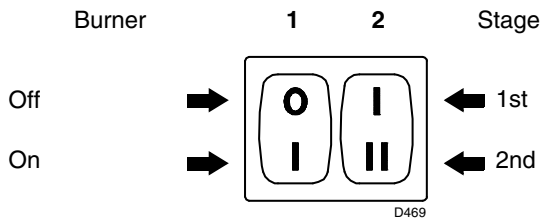
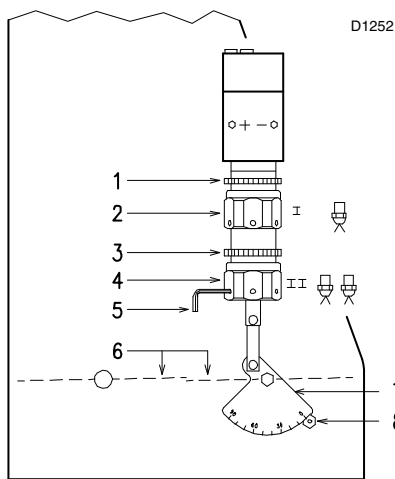

Fig. 20
Fig. 21
– The pump can be considered to be primed when the light oil starts coming out of the screw 3). Stop the burner: switch 1) (Fig. 20 pag. 18) set to "OFF" and tighten the screw 3).
- Start the burner by closing the control devices and with switch 1) (Fig. 20 pag. 18) in the "ON" position. The pump must rotate in the direction of the arrow marked on the cover.
Set switch 1) (Fig. 20) to "ON".
Keep the burner operating at 1st stage by setting the switch 2) (Fig. 20) to the 1st stage position. Opening of the air gate valves 6) (Fig. 21) must be adjusted in proportion to the selected nozzle: the index 8) (Fig. 21) must be aligned with the notch indicated on the graduated sector 7) (Fig. 21). This adjustment is achieved by turning the hex element 2) (Fig. 21):
Set switch 2) (Fig. 20 pag. 18) to the 2nd stage position and adjust the air gate valve 6) (Fig. 21) by turning the hex element 4) (Fig. 21), after having loosened the ring nut 3) (Fig. 21).
in order to facilitate adjustment of hex elements 2) and 4) (Fig. 21), use a 3 mm Allen key 5) (Fig. 21).